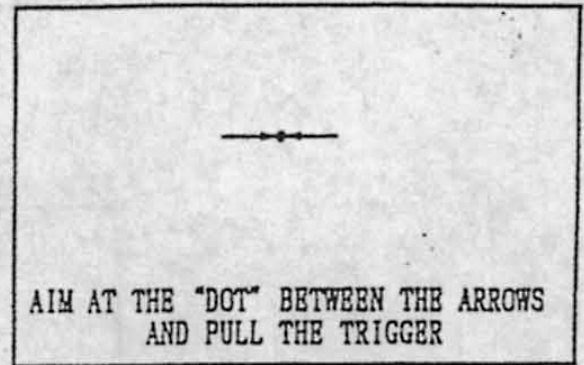

Fig. 16
- (4) When you are aiming the gun almost one second in the state of (3), the screen cursor comes between the arrows (—•—) as shown in Fig. 16.